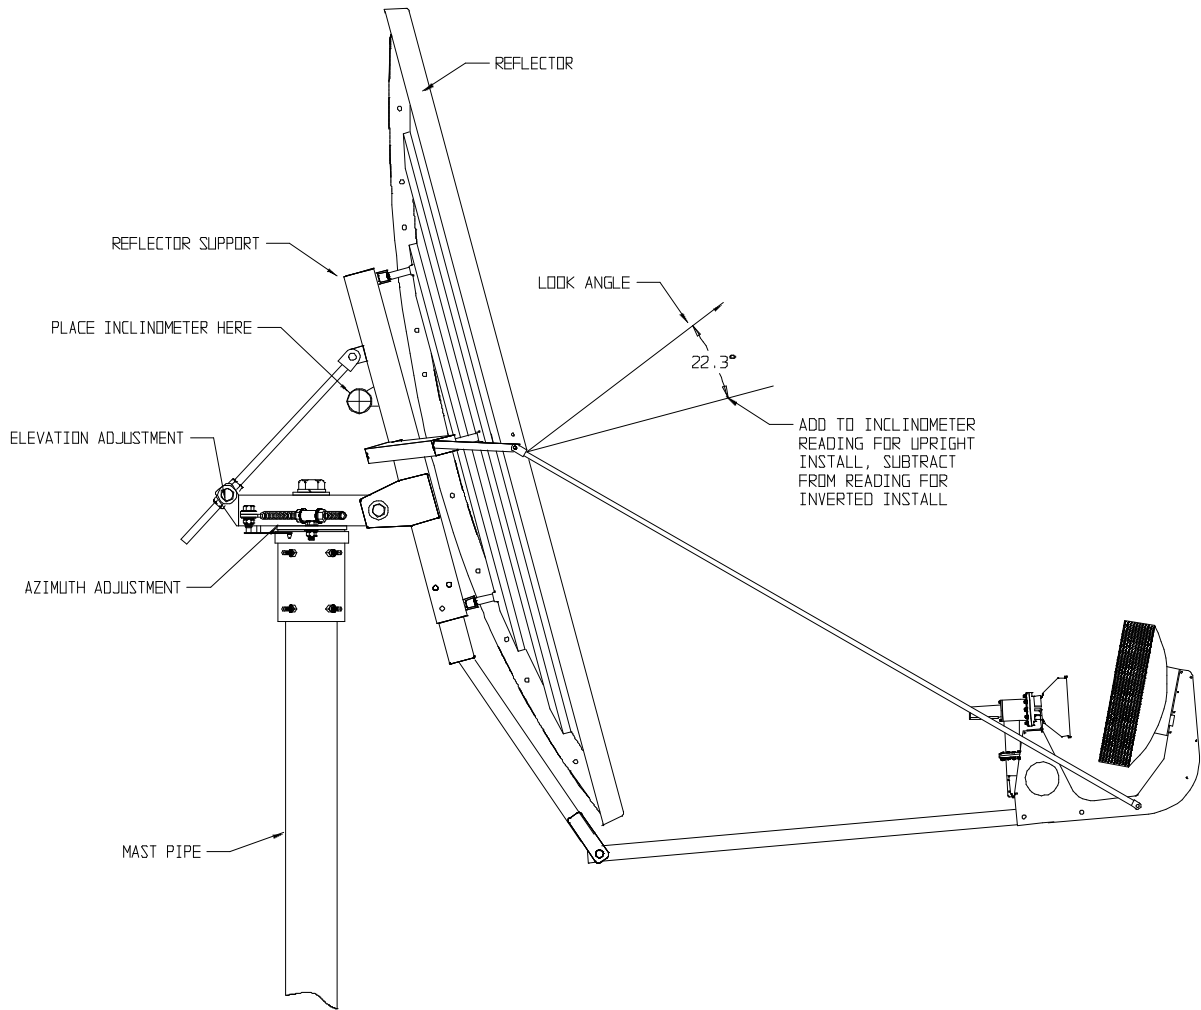

Figure 4.1-1
- 1) Place an inclinometer on the reflector support as shown in figure 4.1-1. Remember to add  $22.3^\circ$  to the reading to allow for the reflector's offset angle.